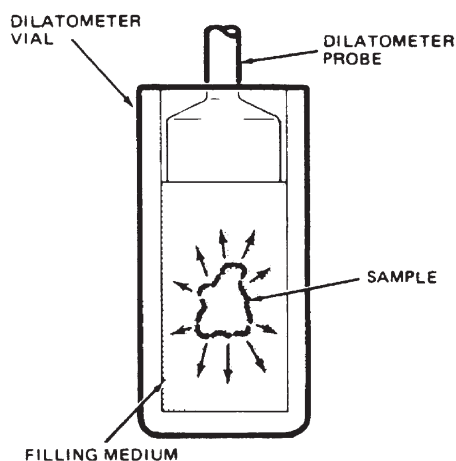

Figure 4.9
6. Check the filled and packed dilatometer vial from all angles to make sure that the sample does not show (see Figure 4.9).